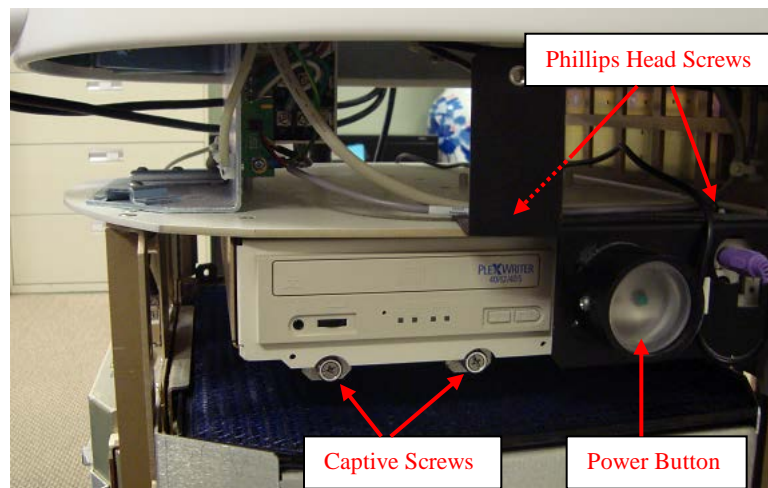

Figure 17.AA. DVD Drive Removal (front view)
- (f) Remove the 2 cable/connector assemblies at the rear of the DVD Drive (see the Figure 17.BB. below). The smaller connector has 2 retainer screws locking it into